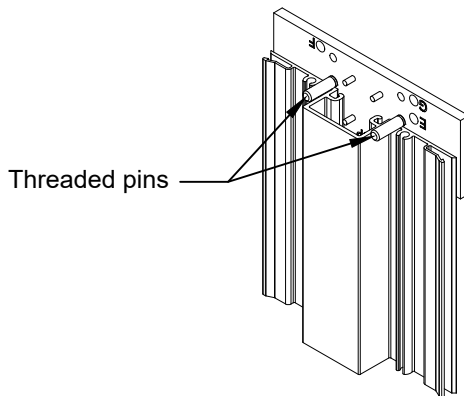

Fig.5.2a
- A. Place the threaded pins in the holes as shown in Fig. 5.2a. Finger tighten.